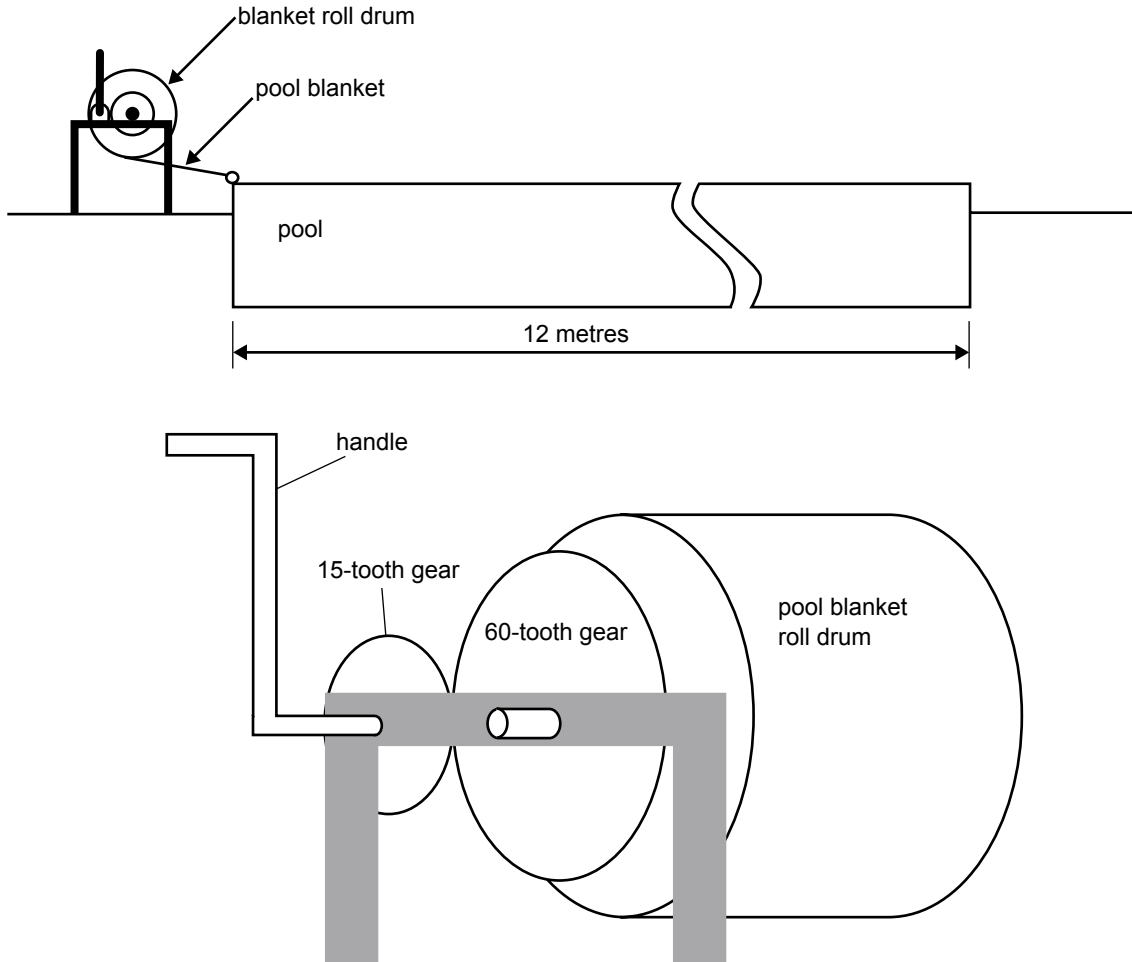

Figure 1
Figure 1 shows the pool and pool blanket roll drum device when the pool is uncovered.
- b. The pool blanket roll drum (Figure 1) has an average circumference of 1200 mm. Calculate how many rotations of the pool blanket roll drum would be required to remove the blanket from the pool. Refer to the formula on page 19 and show all working.